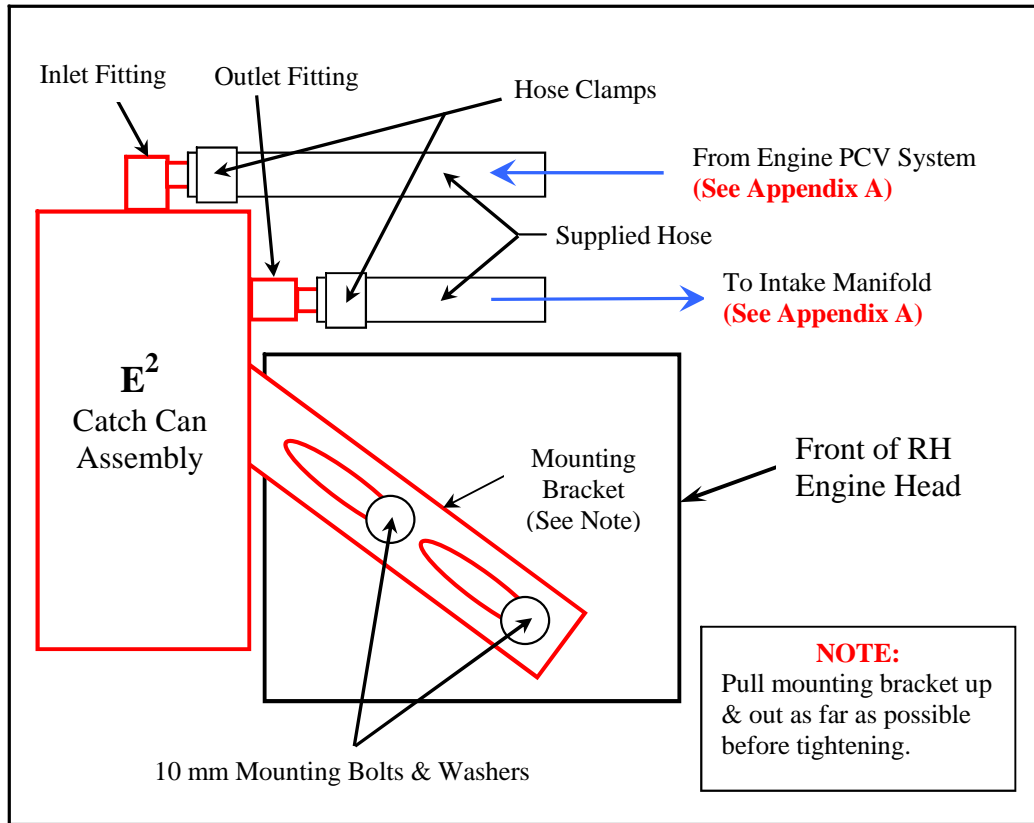

Figure 1 – Catch Can Assembly Mounting Setup
4) (**Reference Figure 1**) Locate the Catch Can and Bracket Assembly on the RH front end of the engine head, and attach with the supplied stainless steel 10 mm dia. by 20 mm long button head